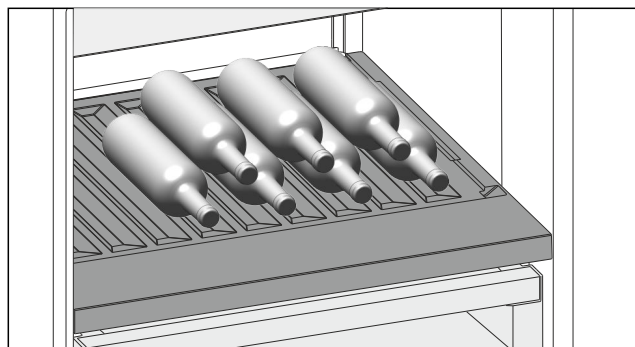

Fig. 81
- ▶ Place bottles in the back row with their bases against the back wall. (see Fig. 81)